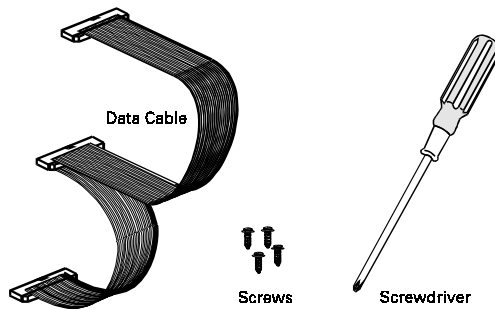
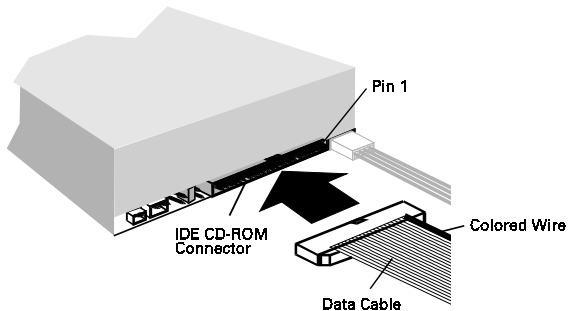

Figure 2-1: Items required for setting up your CD-ROM drive.
Figure 2-8: Connecting data cable to your CD-ROM drive.
Besides the CD-ROM drive, get the following items ready before setting up your drive (see Figure 2-1):
3. Connect the data cable to the CD-ROM drive as shown in Figure 2-8. Make sure you align the colored wire on the cable to Pin 1 of the IDE CD-ROM Data Connector. If you are connecting your drive to your hard disk controller card, make sure that you use the data cable provided with your package to connect your drive (see Figure 2-1 on page 2-1).